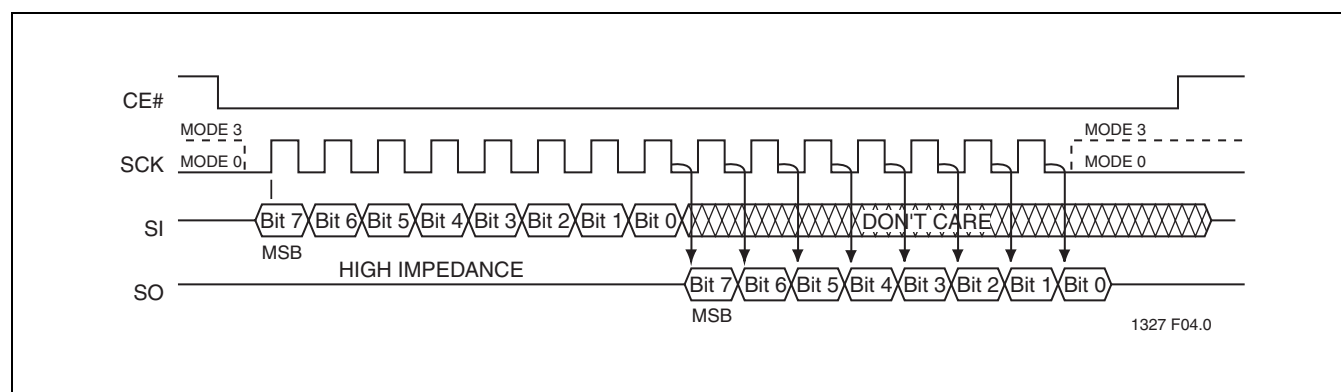

FIGURE 4: SPI Protocol
The SST25VF032B supports both Mode 0 (0,0) and Mode 3 (1,1) of SPI bus operations. The difference between the two modes, as shown in Figure 4, is the state of the SCK signal when the bus master is in Stand-by mode and no data is being transferred. The SCK signal is low for Mode 0 and SCK signal is high for Mode 3. For both modes, the Serial Data In (SI) is sampled at the rising edge of the SCK clock signal and the Serial Data Output (SO) is driven after the falling edge of the SCK clock signal.